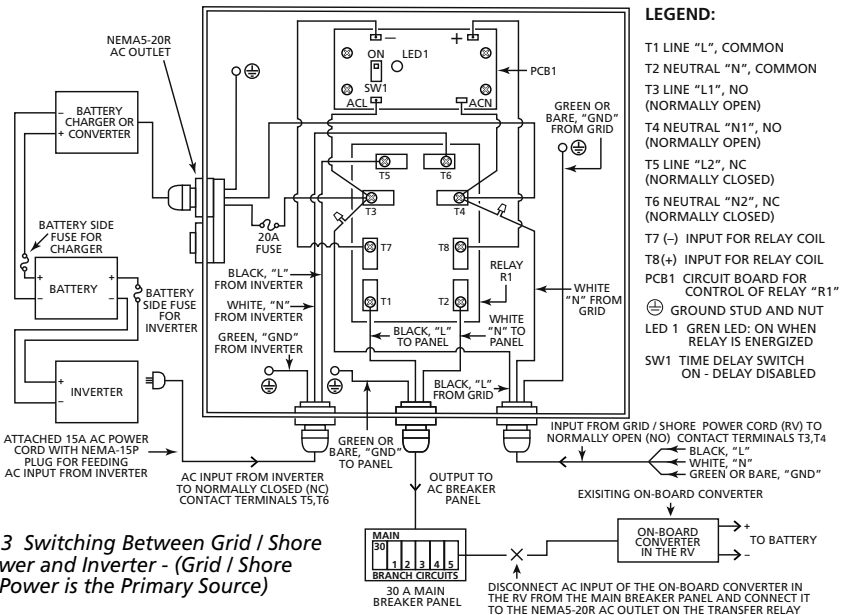

Fig. 5.3 Switching Between Grid / Shore Power and Inverter - (Grid / Shore Power is the Primary Source)
Please refer to Fig 5.3.
- c. Use AWG#10/3 cable to connect the AC output to the Main Breaker Panel by using a convenient knockout / cable clamp (3/4" or 1") for cable entry. Cable clamp has not been provided for this connection and has to be provided by the user. Connect the 3 wires as follows (Fig 5.3):
- d. Plug the NEMA5-15 plug (2, Fig 3.1) of the Inverter power cord (1, Fig 3.1) to the output of the Inverter (Fig 5.3). As pointed out earlier, in case the Inverter capacity is >1800 VA & up to 3600 VA, appropriate connection arrangement using AWG#10/3 wiring will have to be used. **Please ensure that the Inverter is switched OFF and the battery input connection to the Inverter is disconnected.**
- e. Plug the external Battery Charger / Converter to one of the receptacles of the NEMA-20R Duplex receptacle (3, Fig 3.1; Fig 5.3). **Please ensure that the AC input current of the Battery Charger is less than 16A continuous as the receptacle is internally fused at 20A max. In case the current drawn by the external Battery Charger is > 16A continuous, it should be wired to a separate circuit connected to the NO contact terminals T3 and T4 through a fuse applicable to the input current of the Battery Charger.**
- f. **In case the Transfer Switch is being used in an RV application, the built-in Converter of the RV should be disconnected from the AC Breaker Panel (Fig 5.3).** This is necessary because when the Grid / Shore Power Cord / the Generator fails or is disconnected, the panel will be fed by the Inverter and if the Converter is not disconnected from the panel, it will result in a battery to Inverter to Converter to battery loop that will quickly drain the batteries. In case the external Battery Charger is not being used, the Converter may be re-wired to the NEMA5-20R Duplex Receptacle (3, Fig 3.1). As these receptacles are connected to the NO contact terminals T3 and T4, the Converter will always be powered from the Grid / Shore Power Cord / the Generator.